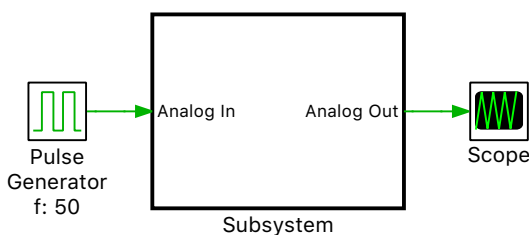

Figure 9: Subsystem showing ports created by the Analog In and Analog Out components
- 2 Add an additional scope on the top-level schematic connected to the Analog Out port. Add a Pulse Generator with a 50 Hz frequency. Connect the Pulse Generator output to the Analog In port. You can leave all other parameters at their defaults. Your top-level schematic should look like Figure 9.